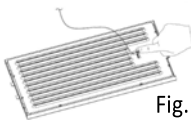

Fig.10.2
- To remove, always hold the baffle filter with one hand while depressing the handle and pull down the filter by the other hand. Remove the filter by unlocking the hook.(Fig.10.2)